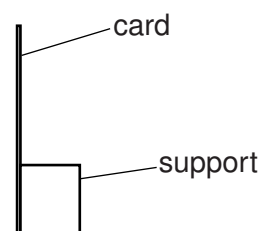

Fig. 1.2
- (iv) Screen. The screen may be made from a white sheet of stiff card approximately 150 mm \times 150 mm, fixed to a wooden support (see Fig. 1.2).